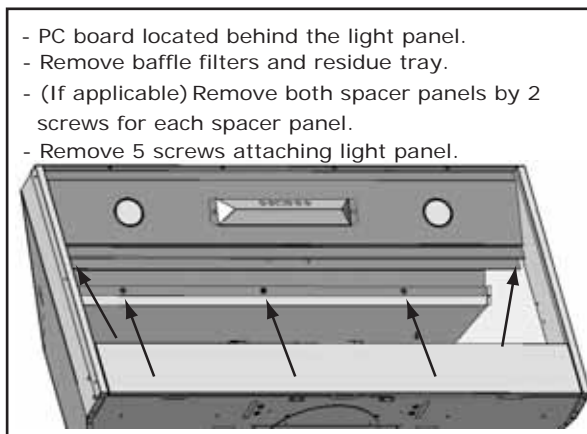

FIG. 8
1. Before hood installation, gain access to PC board by following the steps shown in FIG. 8.